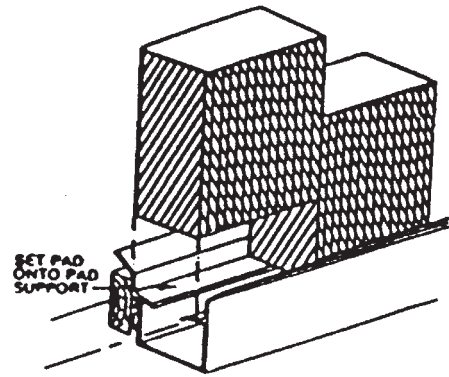

Fig. 19
1. The pads should now be installed by placing the pads into the gutter assembly. Press pads into the gutter to seat them on the pad support (See Fig. 19).